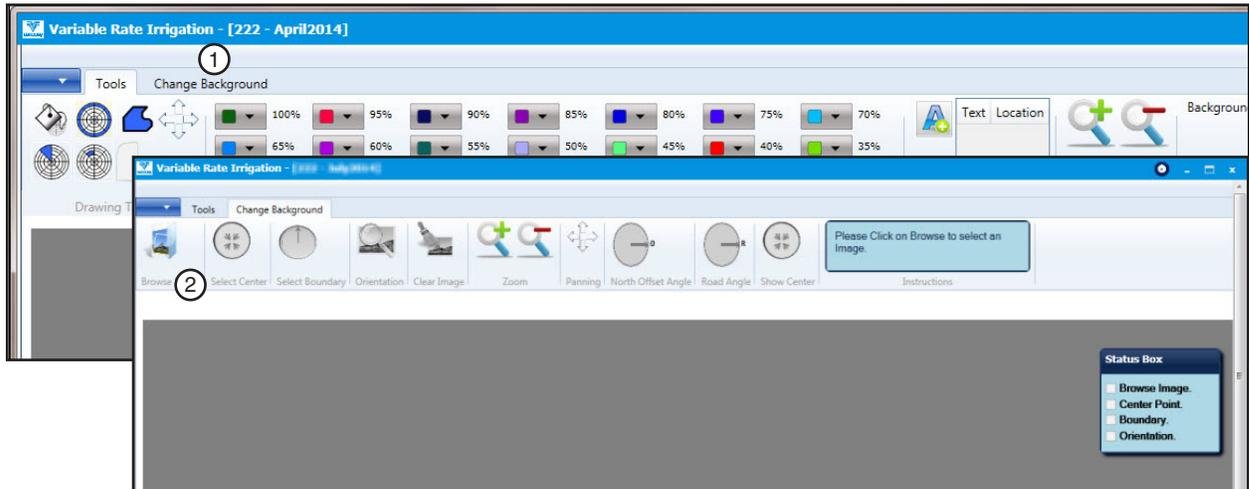

Figure 13-1 1. Change Background Tab
1. Click the **Change Background** tab on the Variable Rate Irrigation screen. (Refer to Figure 13-1.)
The Change Background screen appears. (Also refer to Figure 13-1.)